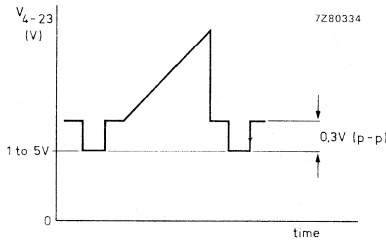

Fig. 2 Colour composite video input signal at pin 4.
1. The sync separator input signal is shown in Fig. 2.